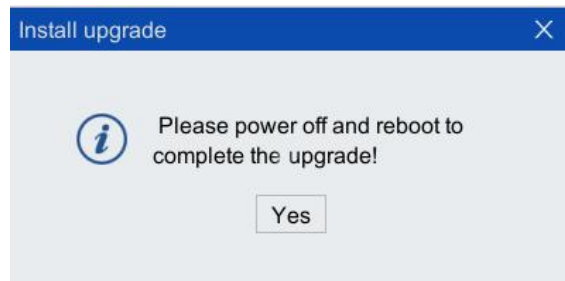

Figure 8-52 "Please power off and reboot to complete the upgrade!" dialog box
Step4. After upgrade, "Please power off and reboot to complete the upgrade!" dialog box in Figure 8-52 click <Yes> button, and power off and restart to complete the DCB firmware upgrade.